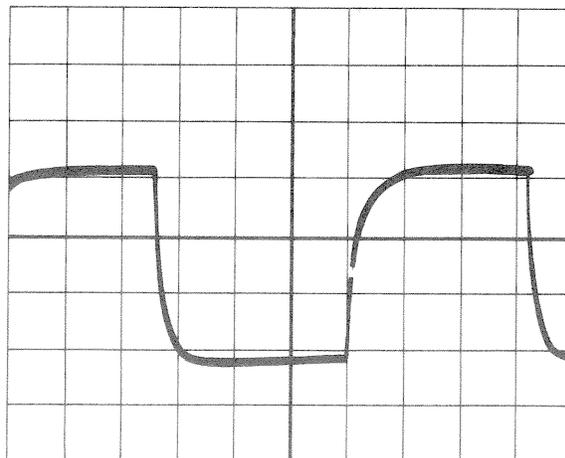

Fig. 4-2
5. Adjust R644 so that the PG pulse appears midway between the positive and negative peaks. See Fig. 4-2.